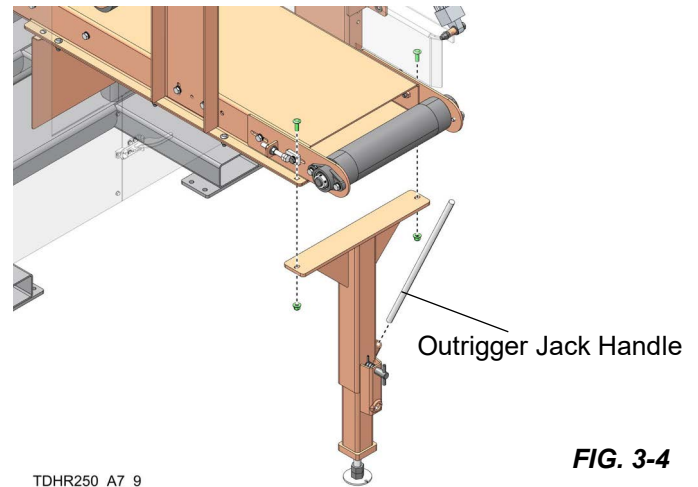

FIG. 3-4
- Attach load leg to infeed conveyor section using (2) M10 1.5x30 carriage bolts and (2) M10 1.5 nylock nuts. See FIG. 3-4